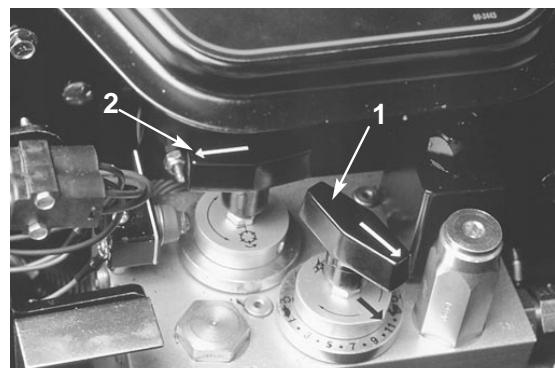

Figure 10
**Reel Speed Control** (Fig. 10)—(Located under console
**Backlap Control** (Fig. 10)—(Located under console cover) Turn the knob clockwise for backlapping and counterclockwise for mowing. Do not change the knob position when the reels are turning.